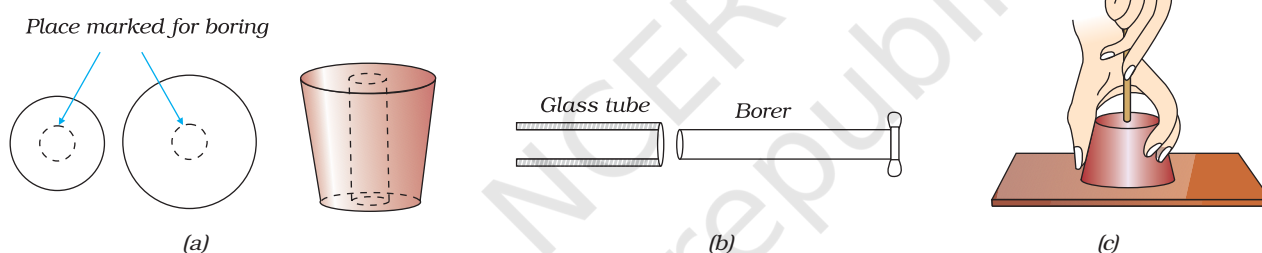

Fig. 2.7 : (a) Marked cork (b) Choosing the borer (c) Boring process
- (i) Mark the rubber cork on both its sides at the place where a hole is to be drilled (Fig. 2.7 a).
- (ii) Choose a borer of diameter slightly smaller in size than that diameter of the tube to be inserted in the hole (Fig. 2.7 b).
- (iii) Place the rubber cork on the table with its smaller end in the upward direction as shown in Fig. 2.7 c.
- (iv) Hold the cork in position with the left hand and put a suitable borer, lubricated by dipping in water or glycerine, at the place where the hole is to be drilled (Fig. 2.7 c). By lubricating the borer with water or glycerine a smooth hole is drilled.